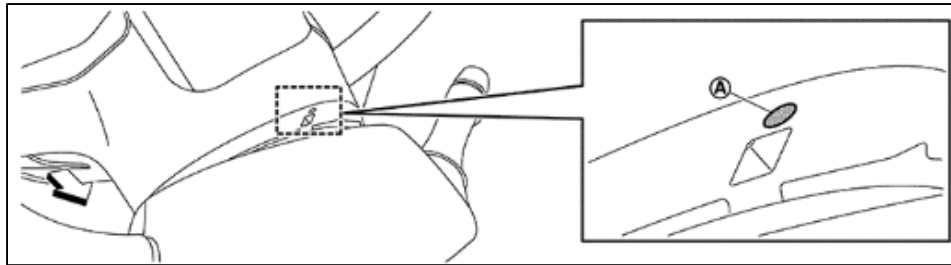

Figure 3
4. Turn the steering wheel until the access hole (A) is visible from the top of the steering column (Figure 3).